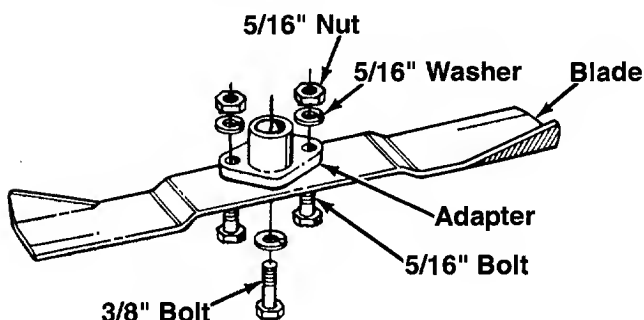

FIGURE 14.
1. Remove the large bolt and lock washer which holds the blade and adapter to the blade spindle. See figure 14.
3. If the blade or blade adapter needs replacing, remove the two small bolts, lock washers and nuts which hold the blade to the adapter. See figure 14.